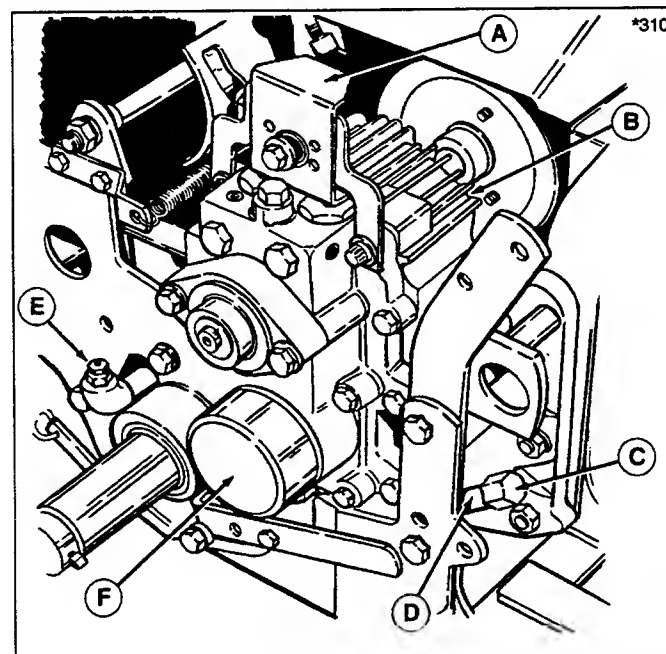
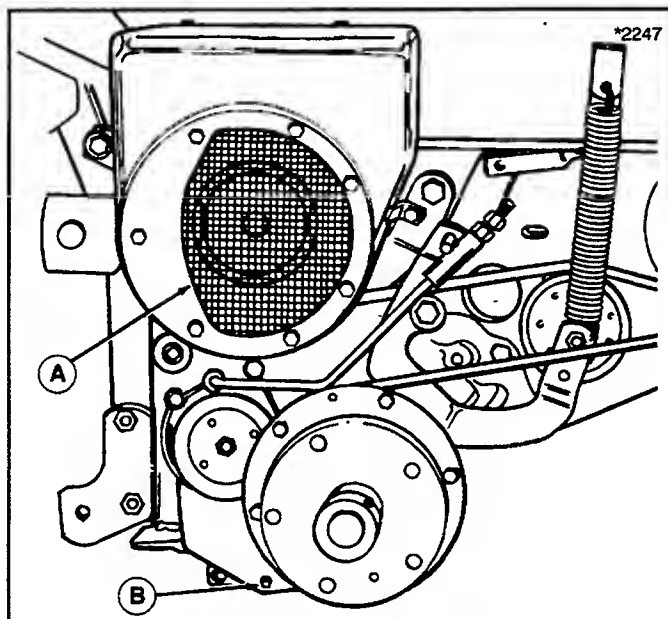

Figure 14. Hydrostatic Transmission
Figure 15. Hydrostatic Transmission
2. Wipe the transmission fill cap (C, figure 14) and fill tube (D) clean, then remove the cap.
3. Lift and hold the relief valve (E) open. Fluid should be at top of filler pipe. If not, add multi-purpose hydraulic transmission fluid oil. Relief valve must be held firmly up when adding oil.
**NOTE:** The filter is shown in figure 14. Replace the filter every 400 hours of operation or whenever changing transmission fluid. Transmission fluid should be changed only when performing repair work on transmission or hydrostatic unit, or if it becomes discolored from overheating.
2. Press transmission release lever (A, figure 14) down firmly to disengage the hydrostatic pump.
3. Remove hydrostatic transmission drain plug (B, figure 15) from lower right-hand side. Remove dirt from around the fill cap (C, figure 14) and loosen cap to permit air to enter transmission.
- Remove the fill cap (C, figure 14) and clean dirt away from relief valve (E). Using a clean funnel, add multi-purpose hydraulic transmission fluid into the fill tube while holding the relief valve up, until fill tube is full. Install fill tube and hand tighten.